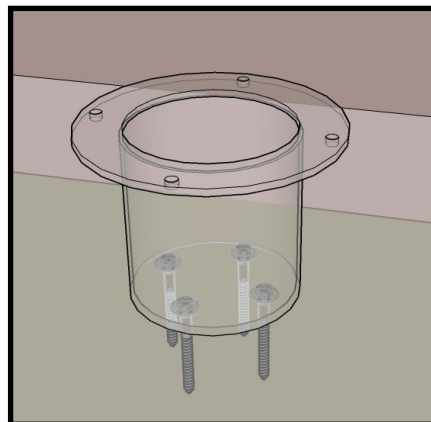

Fig 2
2. With this style of Roof Screen, the Stand-off (see exploded view on page 1) should have been shipped early and installed by the GC in accordance to the layout provided and ensure there is adequate blocking in place to secure. The Stand-offs should be shimmed if necessary to keep the top flange relatively level. Their roofing contractor should have sealed the penetrations before you arrive on site (Fig 2). It is recommended that this be confirmed before you travel to the site.